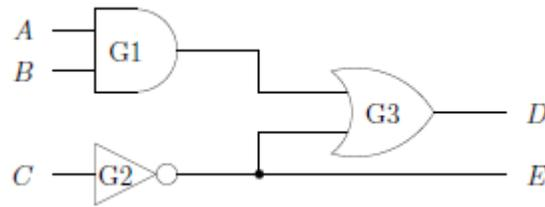

Figure 2. A Simple Circuit
4. A simple program modeling a circuit (see Figure 2) at the gate-level, is described below.